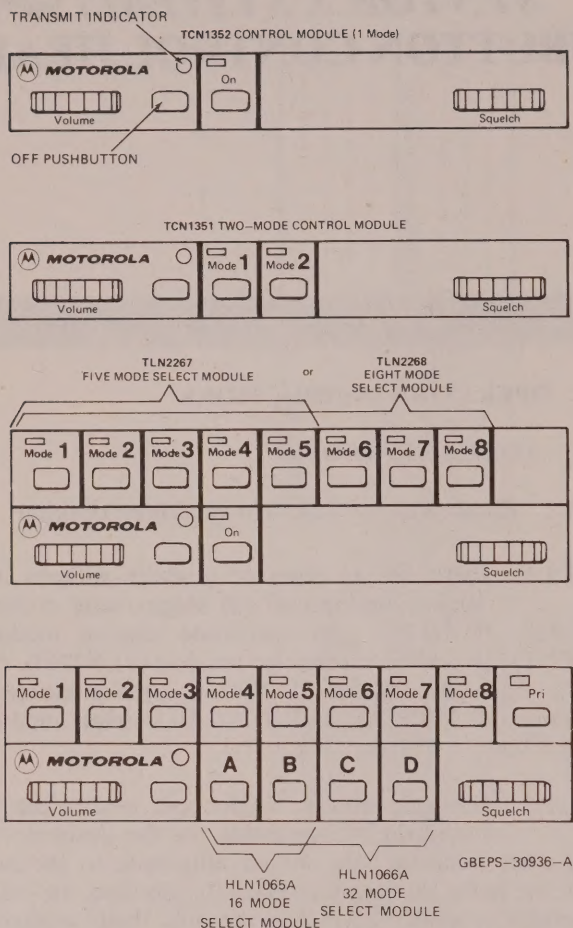

Figure 1. Operating Controls for Radios Without Talk-Around
2.1.1.1 There are six types of modules without the talk-around option: (a) single-mode control module (TCN1352), (b) two-mode control module (TCN1351), (c) five-mode select module (TLN2267), (d) eight-mode select module (TLN2268), (e) 16-mode select module (HLN1065A), and (f) 32-mode select module (HLN1066A). (Refer to Figure 1.)
2.1.1.4 Radios equipped with five-mode or eight-mode select modules can be turned on by depressing the **On** pushbutton located under the **Mode 4** pushbutton (see Figure 1). Then the required mode pushbutton should be depressed to place the radio in the required mode. Verify that the corresponding indicator is lit.
2.1.1.5 Radios equipped with sixteen-mode or thirty-two mode select modules can be turned on by depressing one of the pushbuttons designated A, B, C, or D (Figure 1) to select a group of eight modes. Then the appropriate Mode pushbutton should be depressed to place the radio in the desired mode. The indicator associated with each depressed pushbutton should light.
Step 3. When the channel is clear, press the PTT (push-to-talk) button on the microphone and verify that the red transmit indicator (see Figures 1 and 2) is lit, indicating that the radio is transmitting a carrier.
All the radio sets described in the above paragraphs (single or multi-mode, with or without talk-around) can be turned off by depressing the red pushbutton located on the right of the **Volume** control (Figures 1 and 2).